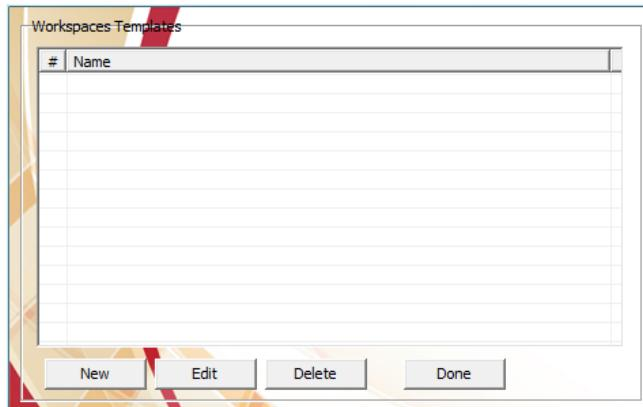
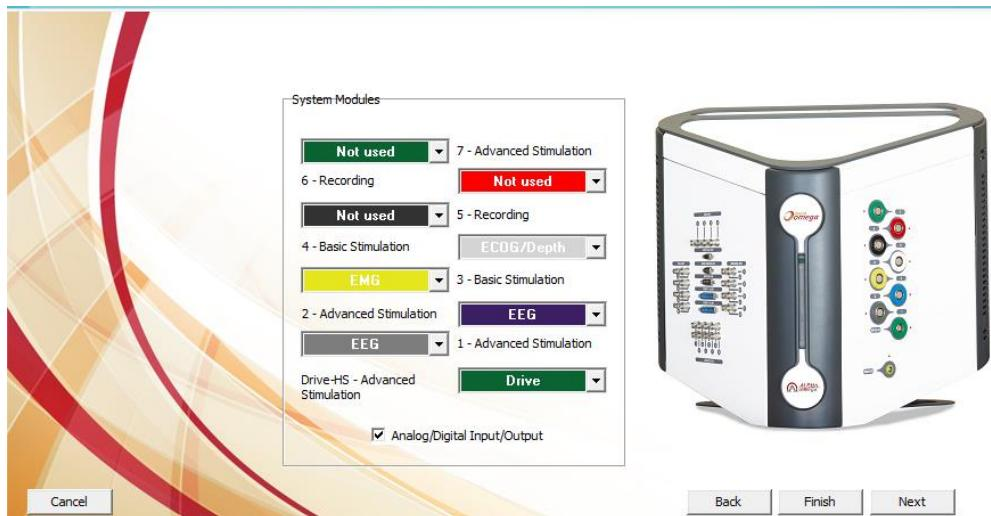

Figure 64 : Choose Workspace Templates Window
Figure 65: System Modules Window
The Choose Workspace Template Window is displayed (see Figure 64).
- Press on New button in the Choose Workspace Templates Window (Figure 64). System Modules Window (Figure 65) will appear.